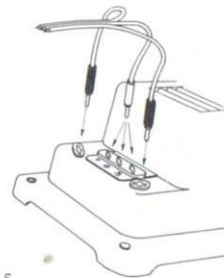

Fig. 5
- 1 Insert the two terminal plugs of the same color to the two exterior output holes (see Fig. 5).
Place the two cars on the track and press one of the accelerators lightly. The corresponding car should move slowly forward (see Fig. 7). If it shoots forward when you are barely depressing the accelerator, it is because your voltage is too high so place the plug in position 3 (see Fig. 5).